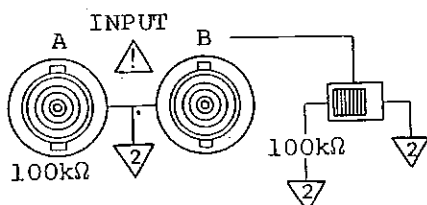

Fig. 4-7
- (4) Connection between a device under test and the input connectors. The measurement section of the VP-7721A provides two input BNC connectors and a switch to select either floating or non-floating input connection (see Fig. 4-7). The input signal path is changed by the operation of the switch as illustrated in Fig. 4-9.